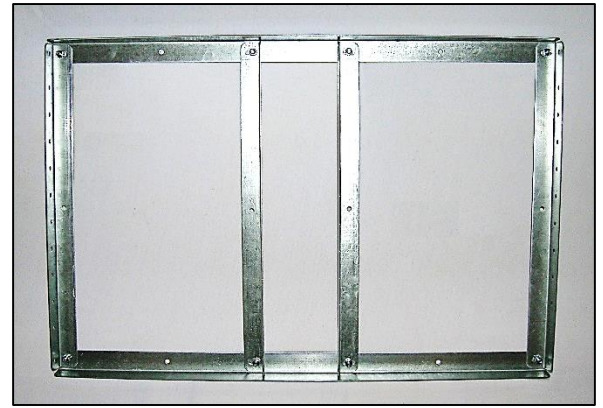

Figure 1 – antenna mount frame assembly
**3.1: Assemble Antenna Mount Frame.** Attach the frame members using 5/16" x 3/4" carriage bolts (refer to Figure 1). Push a carriage bolt through the pre-drilled holes in the frame members. Place a lock nut on the threaded end and use a 1/2" wrench or ratchet with 1/2" socket to tighten.
- The 37 3/4" angled steel frames form the horizontal top and bottom of the antenna mount frame (refer to Figure 1).
- The 24 1/2" angled steel frames form the vertical sides and middle of the antenna mount frame (refer to Figure 1).